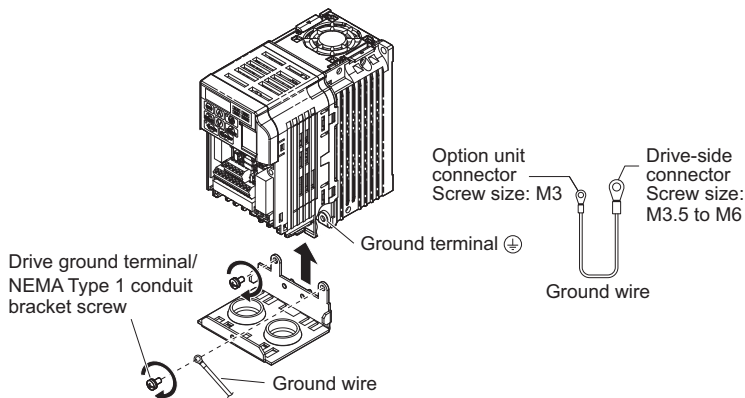

Figure 12 Reattach the NEMA Type 1 Conduit Bracket and Connect the Ground Wire for models CIMR-V□BA0001F to BA0003F, 2A0001F to 2A0006F
8. On NEMA Type 1 enclosure models (CIMR-V□BA0001F to BA0003F, 2A0001F to 2A0006F), the screw for the drive ground terminal also acts as one of the screws that attaches the NEMA Type 1 conduit bracket to the drive. Reattach the NEMA Type 1 conduit bracket according to Figure 12 and connect the drive-side of the ground wire to the drive ground terminal.